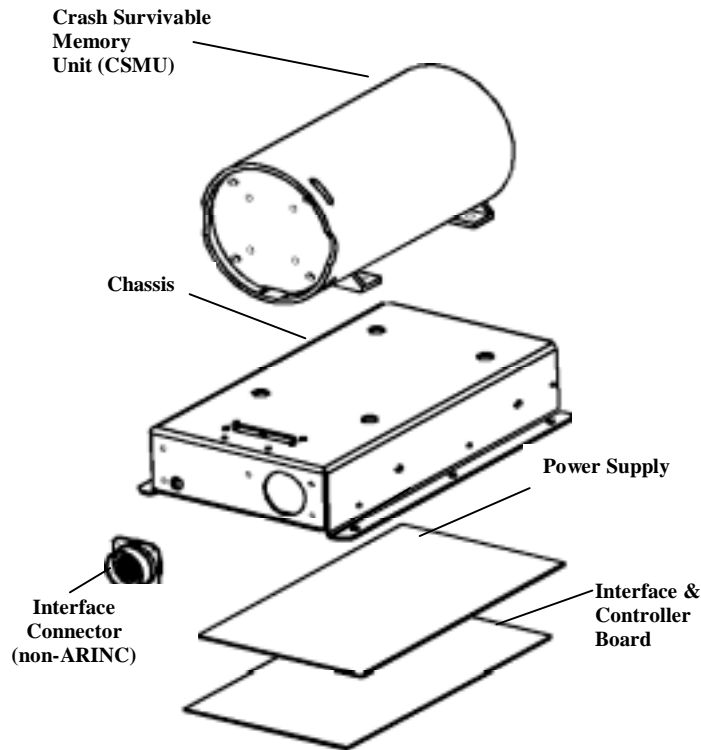

Figure 3: AR-Series Exploded View Showing Major SRUs
All AR-Series Recorders are of non-ARINC form factor in order to minimize the total installation cost and weight. In addition the Pre-amplification and Signal Conditioning functions of the Microphone Monitor (Control unit) have been incorporated within the recorder Chassis, which includes three (3) Shop Replaceable Units (SRU's), as depicted in Figure 3:
- ◆ 28Vdc Power Supply (PS)